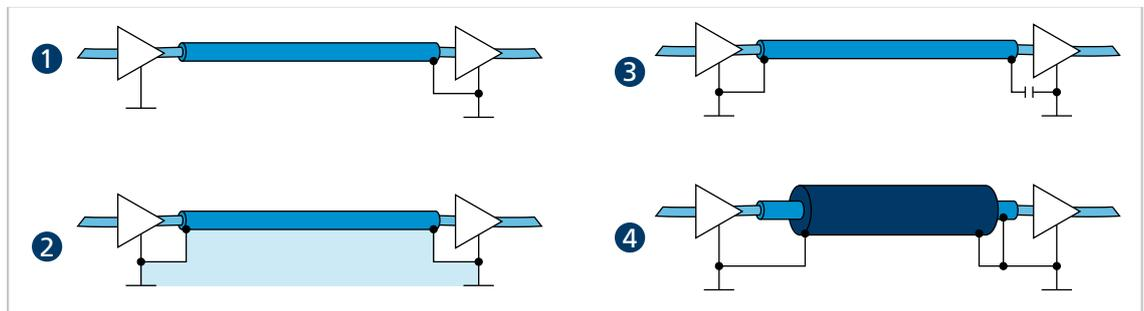

Fig. 20: Various possibilities for the shield connection
- ▶ Lay the motor phases in a shield, separate from the sensor or encoder signals, and connect on at least the motor side (see 1 or 2 in Fig. 20).
The sensor signals can optionally be laid with the motor phases in a shared cable/insulation hose using another outer braided shield. This outer braided shield must be connected at both ends (e.g., 4 in Fig. 20). A solution such as 2 in Fig. 20 is not functional in every case for this configuration. If this is not possible by means of a ground offset, establish the RF connection via specially suited capacitors (e.g., safety capacitors such as Y1/Y2/X1/X2, see 3 in Fig. 20). In this case, do not connect the shield multiple times except at the motor connection and controller side.